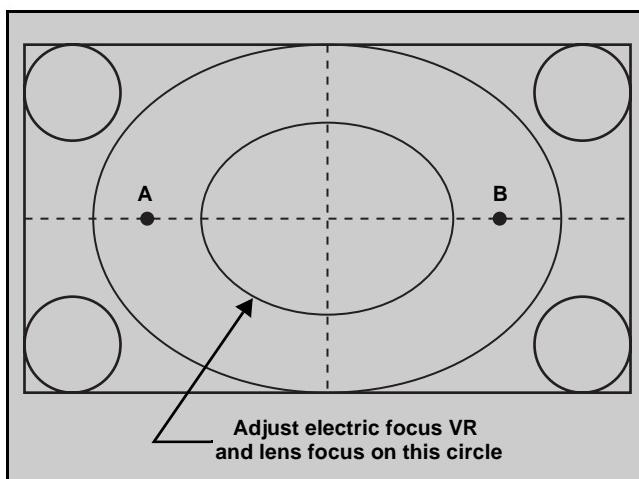

Figure 29. Lens focus adjustment
- Cover the green and blue CRTs, projecting red only. The electrical focus controls are located on the front (Figure 29). Adjust the red focus VR for best focus as indicated in Table 4.